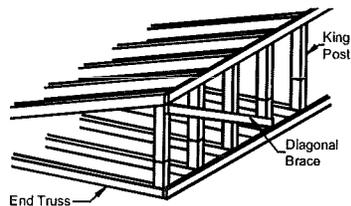

Figure 22. *Diagonal bracing*
5. **Install Bracing.** Install diagonal bracing at both ends of each home section from the top of the gable end truss approximately 45 degrees downward. Keep trusses plumb and secure the brace with two (2) 7/16" x 1-3/4" x 16 ga minimum staples per truss (**Figure 22**).